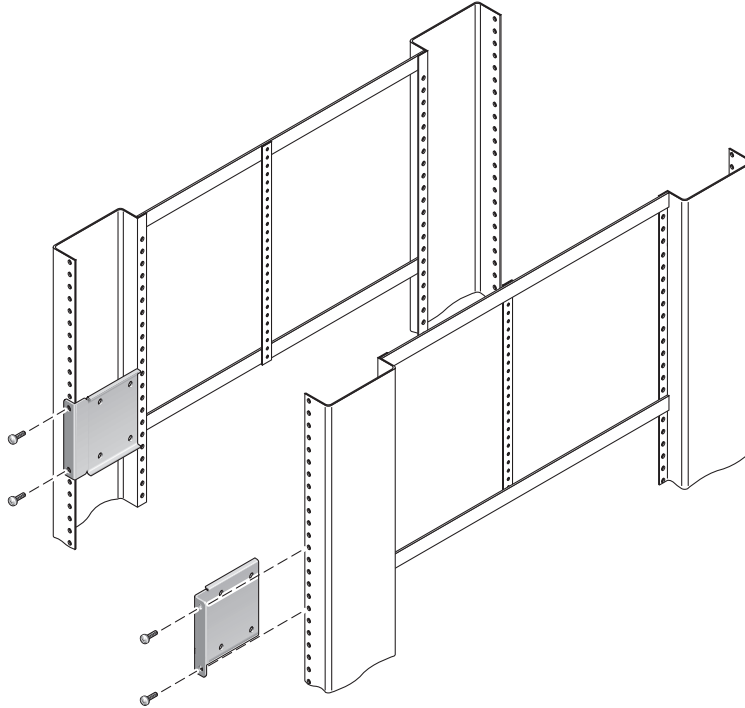

FIGURE 3-10 Securing the Short Brackets to the Front of the Rack
7. Lift each short bracket to the desired position at the *front* of the rack and attach a short bracket to each of the front rack uprights (FIGURE 3-10).